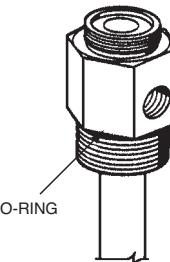

FIGURE 14
► 15. Examine threads on each adaptor and tank collar for nicks, burrs, or cross-threading. Clean and coat O-ring with a good grade of extreme temperature grease. Make certain bursting disc is in place and silver side is away from tank. See Figure 14.